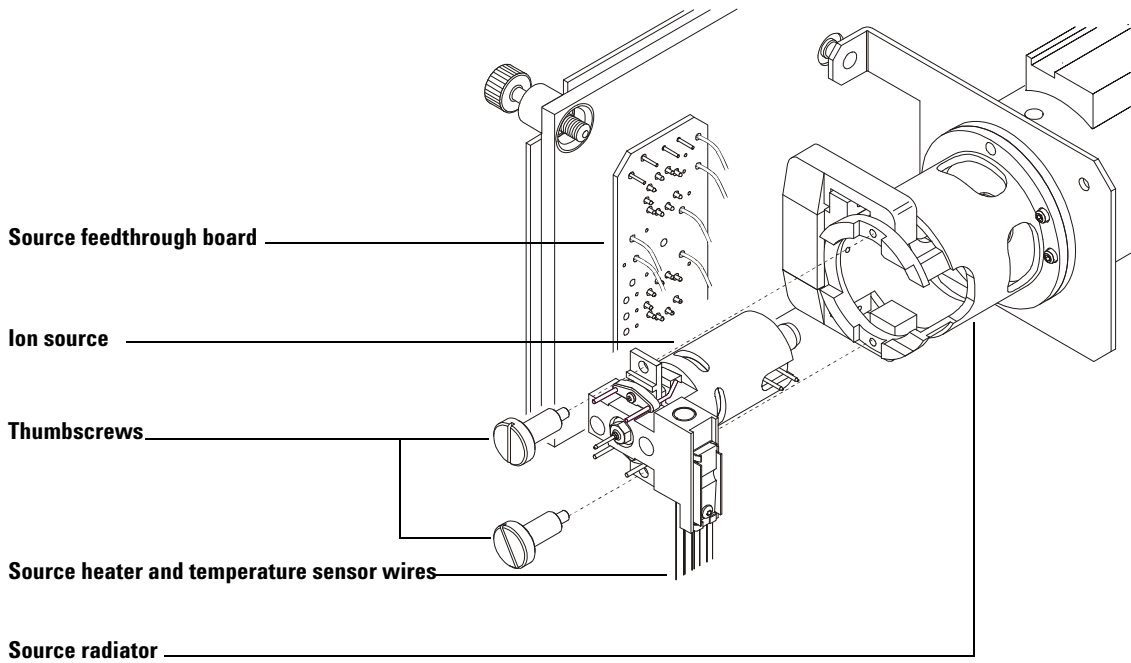

Figure 31 Removing the ion source
- 3 Disconnect the seven wires from the ion source. Do not bend the wires any more than necessary (Figure 31 and Table 18).